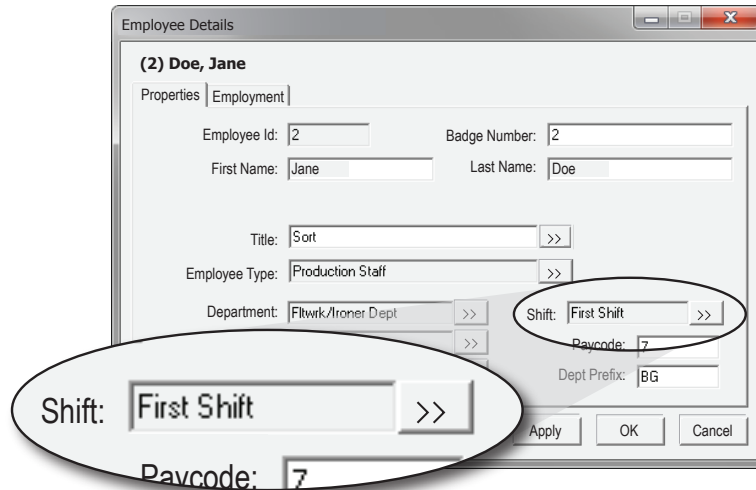

Figure 41. Shift Text field and selection button.
3. Click the button **>>** to the right of the **Shift** text box to open the *Select* dialog. (see Figure 41)
3. Click the button  to the right of the *Shift* text box to open the *Select* dialog (see Figure 41).